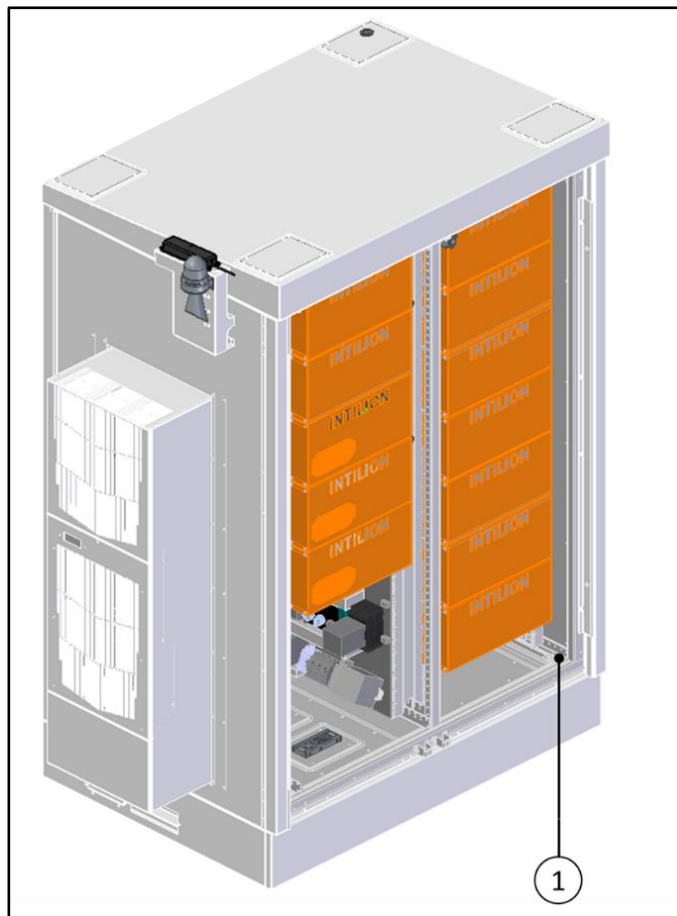

Fig. 37 Mounting the earth electrode for rack poles
- Attach the earth electrode for the rack poles to position (1) (see Fig. 37).